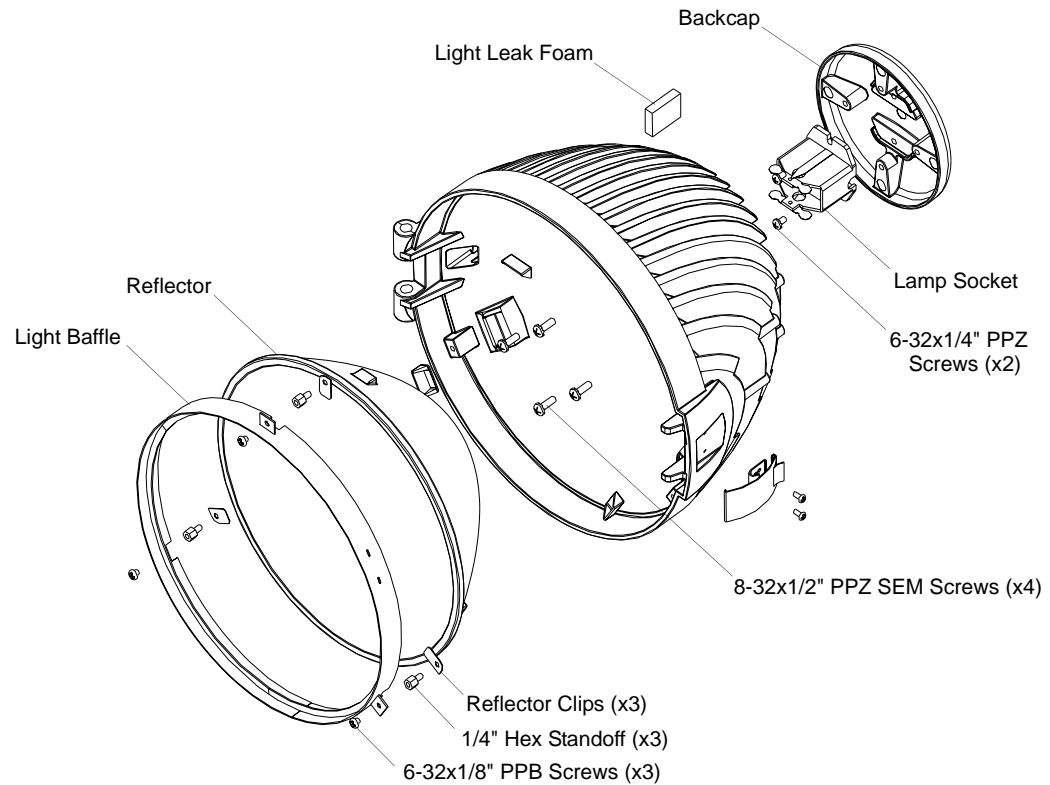

Figure 14: Heatsink Assembly - Lamp Socket Removal
Step 9. As indicated in **Figure 14**, at light baffle, remove three 6-32x1/8" PPB screws.